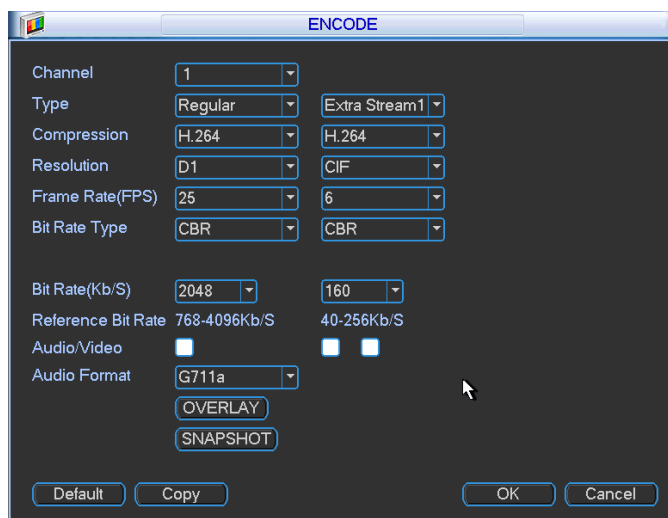
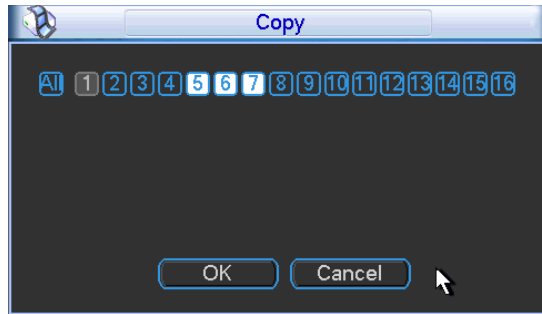
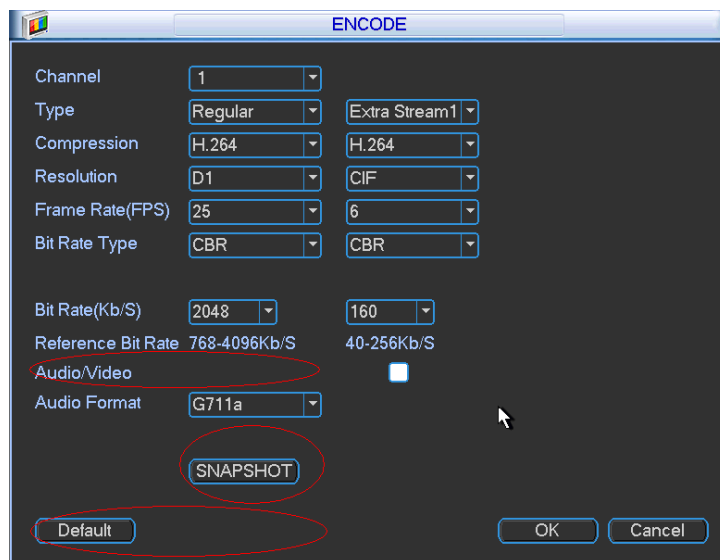

Figure 6-22
Figure 6-24
Figure 6-25
Encode setting includes the following items. See Figure 6-22.
- ◇ Copy: After you complete the setup, you can click Copy button to copy current setup to other channel(s). You can see an interface is shown as in Figure 6-24. You can see current channel number is grey. Please check the number to select the channel or you can check the box ALL. Please click the OK button in Figure 6-24 and Figure 6-22 respectively to complete the setup. Please note, once you check the All box, you set same encode setup for all channels. Audio/video enable box, overlay button and the copy button is shield. See Figure 6-25.